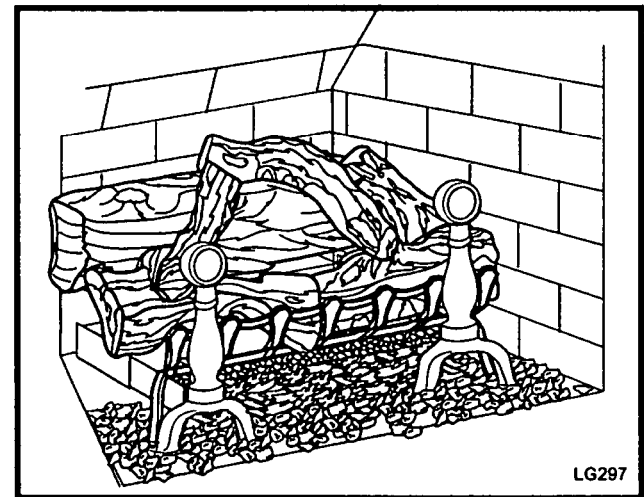

Fig. 47 DVT44 logset.
5. Place the small lava rock 1½" (38mm) along the top front edge of the burner pan assembly. Refer to Figures 47 & 48 for final log positions.